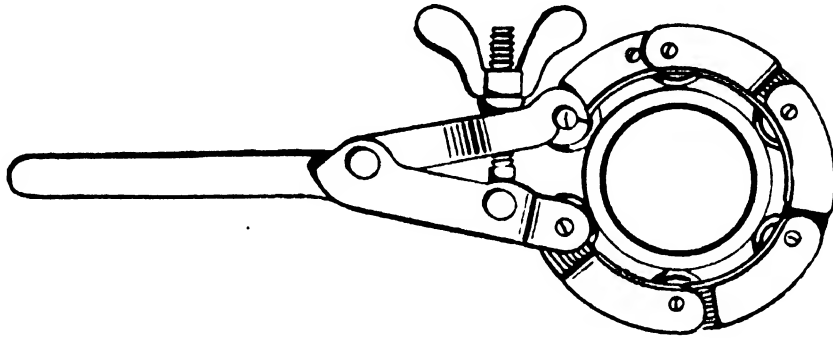

FIG. 95.—The Chain Cutter.
**Chain Cutters.**—The chain cutters shown in Fig. 95 are invaluable to gas and water engineers, as the tool can be